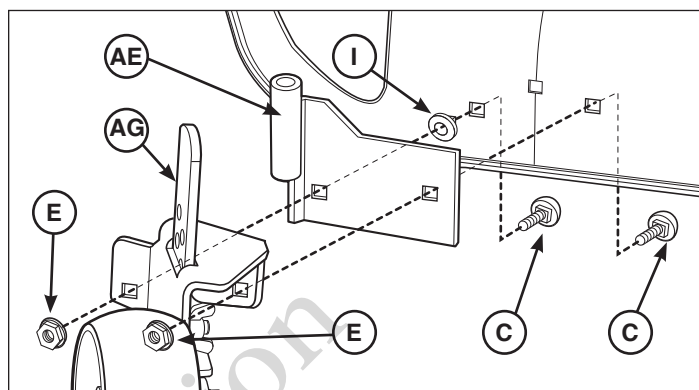
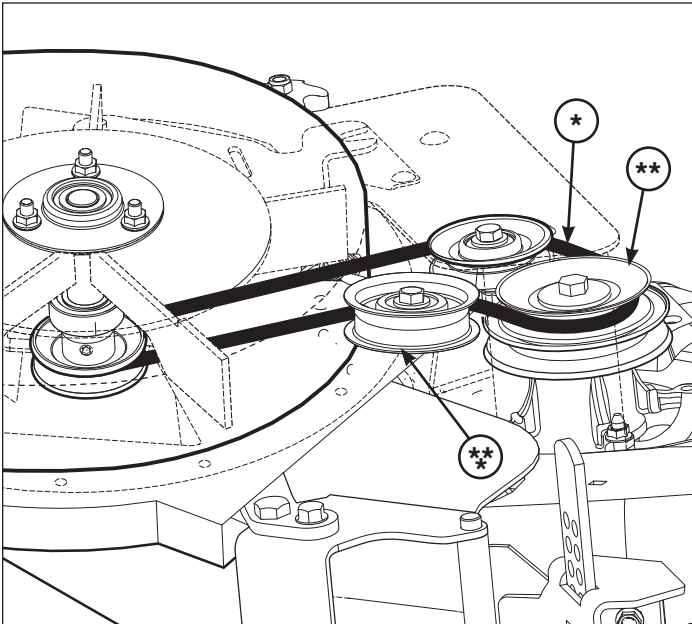

Figure 11
Figure 21
1. From inside of mower, insert carriage bolt (C, Figure 11) through hole closest to the right of the discharge opening.
2. Assemble spacer (I), 46" mower pivot bracket (AE) and front adjustable wheel gage assembly (AG). Secure with nut (E).
3. From inside of mower, insert carriage bolt (C) through hole, 46" mower pivot bracket and front adjustable wheel gage assembly. Secure with nut (E).
1. Install the turbo drive belt (*, Figure 21) on the pulleys (** and ***) as shown.
2. If the turbo drive pulley (**, Figure 21) is NOT in line with the turbo fan idler pulley (***), loosen nuts on front pivot bracket (See Figure 11, 12, 13 or 14).
4. Tighten hardware of front pivot brackets and gage wheels assembled in Figure 11, 12, 13 or 14.